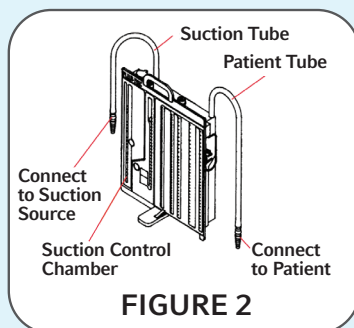

FIGURE 2
2. Connect the patient tube to the thoracic catheter (FIGURE 2). Patient is now protected from atmosphere.
3. Connect suction tube to suction source (FIGURE 2).
5. Turn on suction. Increase suction until gentle bubbling occurs in the suction control chamber (FIGURE 2). The height of the water in the suction control chamber determines the approximate amount of suction imposed regardless of the degree of bubbling.